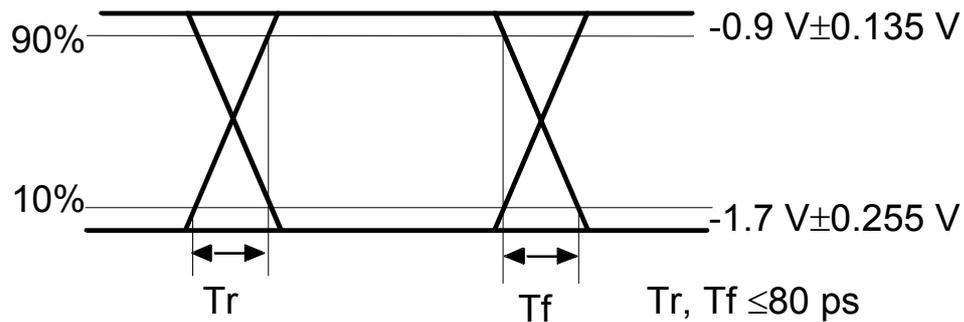

Fig. 8-9 Specifications of data output waveform (ECL)
5. To display waveform, connect all connectors according to Fig. 8-8. Confirm that the level of both waveform is in the range shown as Fig. 8-9 and rise/fall time is 80 ps or less.